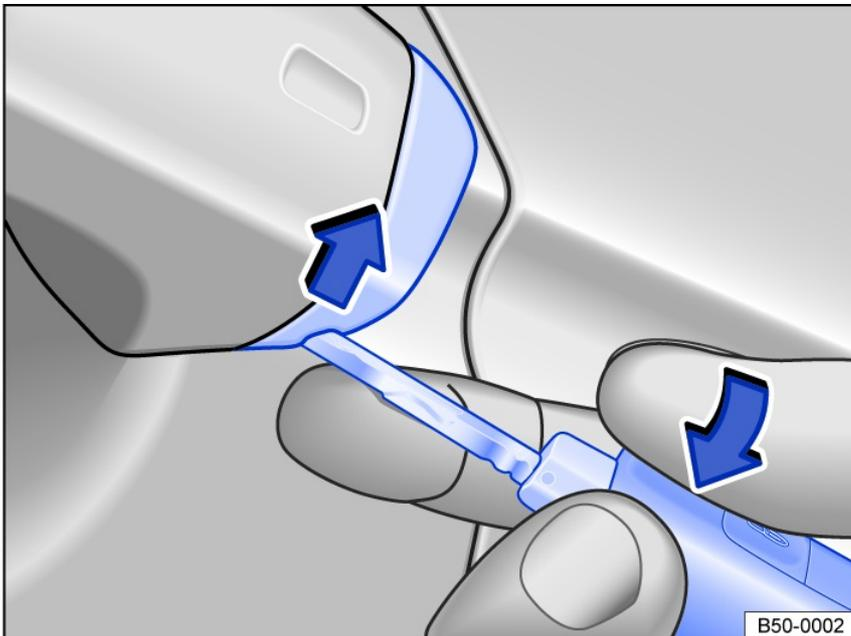

Fig. 59 Driver's door handle: prying off the cap.
- Use the vehicle key to pry the cap off in the direction of the arrow *fig. 59*.